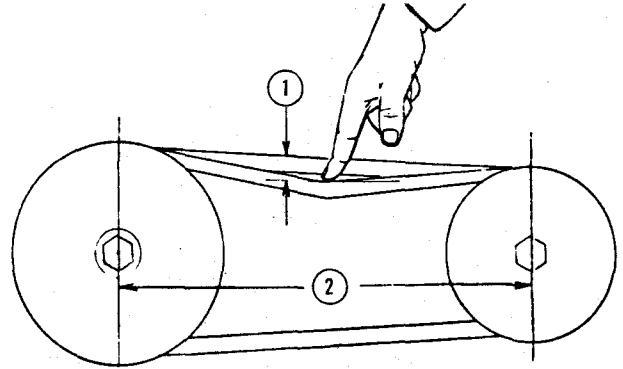

Fig. 2-30, (N11471). Checking belt tension manually
2. If belt tension gauge is not available, tighten belts so pressure of index finger will depress belt amount of deflection in Table 2-2. The index finger should be extended straight down from hand; in this manner, force will be approximately 13 lbs. [5.9 kg] deflection (1, Fig. 2-30) per foot [0.3 m] of span (2).